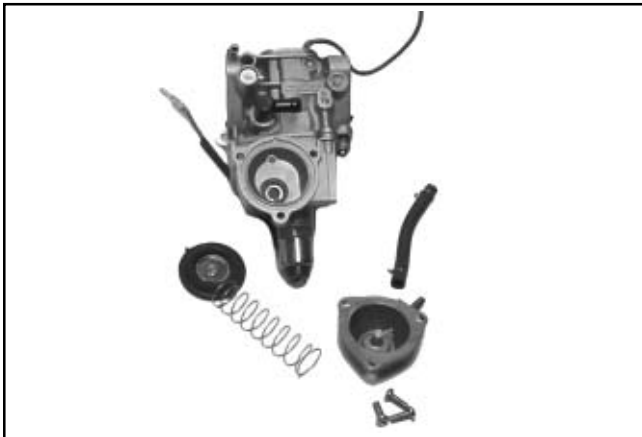

Figure 5-27. Accelerator Pump Cover and Diaphragm Removed.
2. Remove the three screws securing the cover to the accelerator pump housing. Remove the cover, spring, and diaphragm. See Figure 5-27.